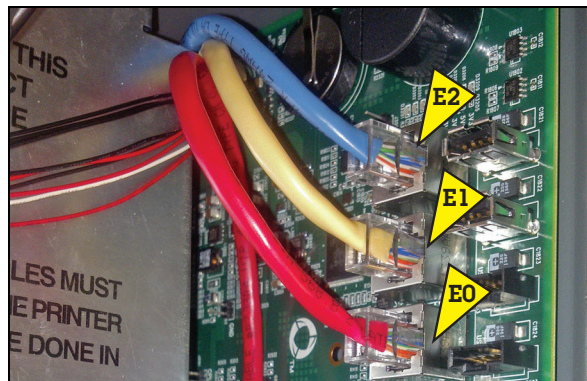

Figure 9. Remove Ethernet Module Cables From CPU Board
- Figure 9. Remove Ethernet Module Cables From CPU Board 7
9. Remove the three Ethernet Module cables ENET2 (blue), ENET1 (yellow) and ENET0 (red) from the CPU board (see Figure 9).
21. Reconnect the three Ethernet Module cables ENET2 (blue), ENET1 (yellow) and ENET0 (red) from the CPU board (ref. Figure 9).
4. Reconnect the three Ethernet Module cables ENET2 (blue), ENET1 (yellow) and ENET0 (red) from the CPU board (ref. Figure 9).